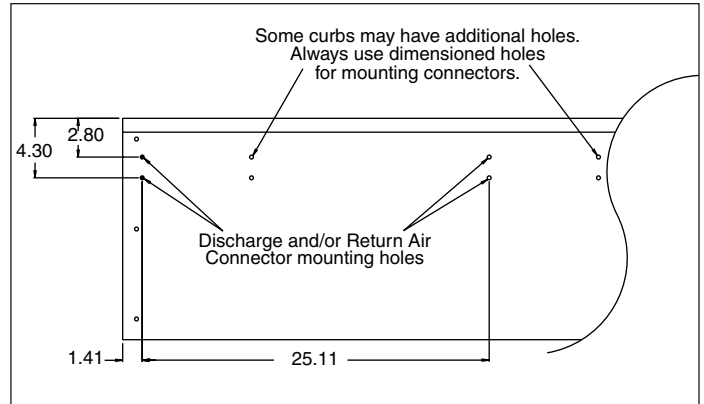

Figure 3.3 - Duct Connector Installation
4. Install the duct connector using the remaining nuts, screws and washers. See Figure 3.3.